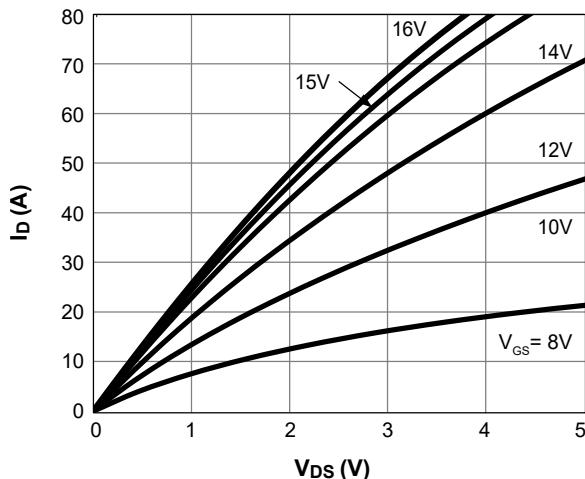

Figure 1. On-region Characteristics $T_J = 25^\circ\text{C}$
- H. The static characteristics in Figures 1 to 8 are obtained using $< 300\mu s$ pulses, duty cycle 0.5% max.